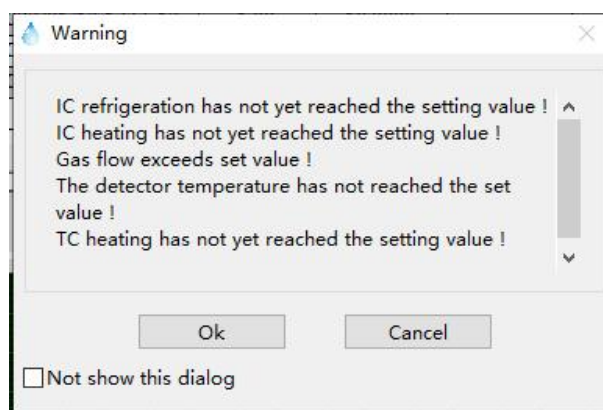

Fig 4.17
Step 6 Click  to start test. The system will give a reminder (Fig. 4.17) if the current testing conditions do not meet the requirements. Then click 'Cancel' to wait for the conditions be stable, click , no warning again. System starts the cleaning process (Fig. 4.18), user can check the cleaning progress to see whether the cleaning is complete.